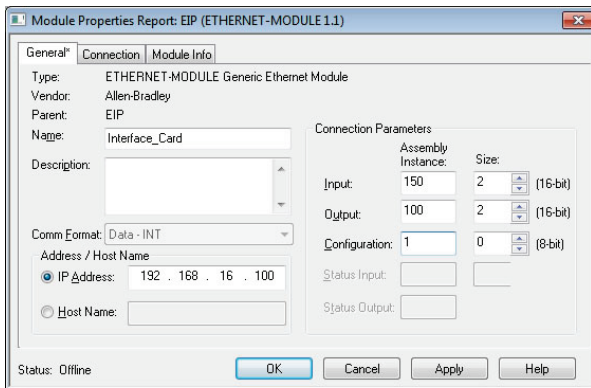

Figure 53: Interface Card Module Properties
- 4) The module properties dialog box will open (refer to Figure 53). Enter a Name which will allow easy identification of the inverter on the network (the tags created in RSLogix 5000 will be derived from this name). Because all inverter data is stored as 16-bit function codes, change the "Comm Format" selection to "Data-INT". Enter the IP address of the targeted interface card.